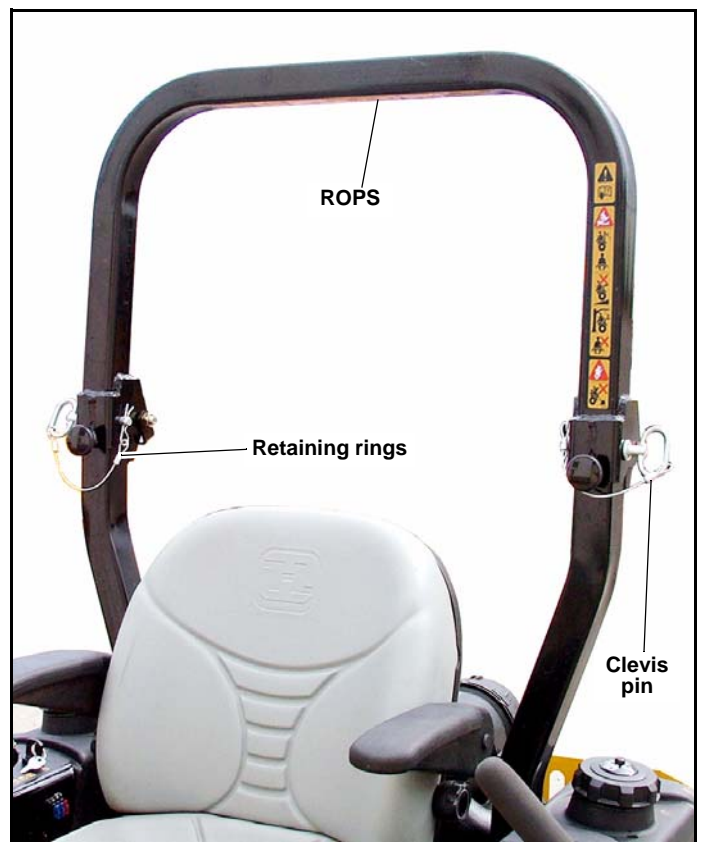

Figure 3-6
**NOTE:** Inspect the ROPS after the first 20 hours of operation. Following the initial inspection, check the ROPS after every 500 hours of operation or every six months, whichever comes first. Figure 3-6
other obstructions. **Do not** wear the seat belt when the ROPS is in the lowered position. **Use the ROPS in the “folded” position only when it is absolutely necessary.** Figure 3-6